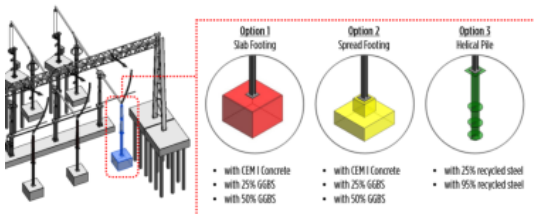

Figure 4: Design Optimization using BIM Enabled Carbon Comparison
- Figure 4 shows an example of an optioneering exercise for three different foundation options with different materials. A summation of material embodied carbon values for each design alternative can be quickly and accurately determined based on metadata provided within the model.